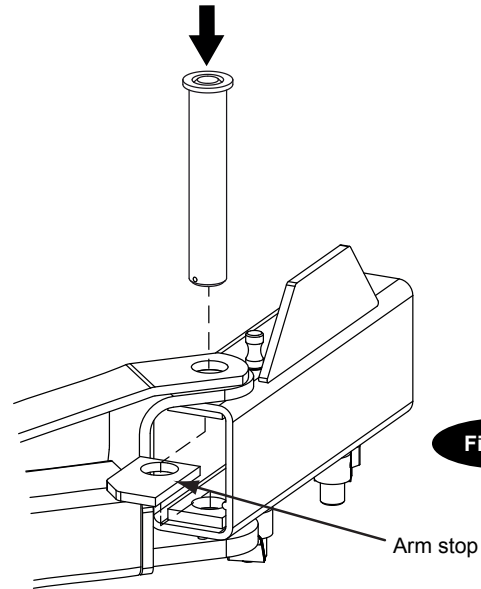

Fig. 25b
**Note:** Arm stop will be required on the drive in side of the power unit side. Install at same time as arm pin, Fig. 25b. Notice the orientation of arm stop in Fig. 25c.